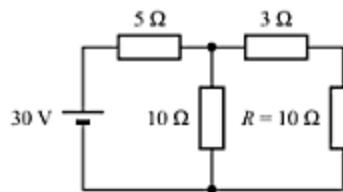

Fig. 4.43
- By applying Thevenin's theorem, find the voltage across the resistance R in the circuit shown in Fig. 4.43.